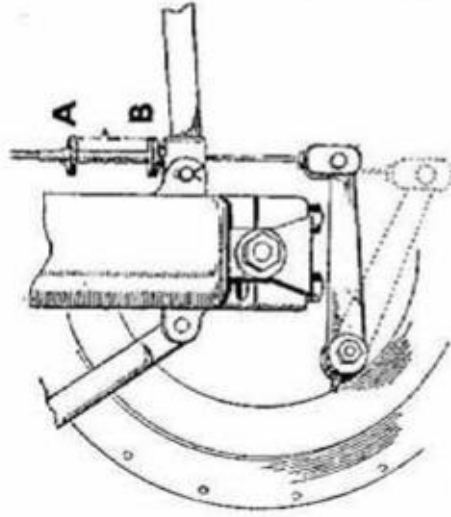

FIG. 16. HAND-ADJUSTMENT OF 1945-7 FRONT BRAKE (SHOWN EXHAUSTED)
Referring to Fig. 16, jack up the Matchless on both front and rear stands. Then *unscrew* the lock-nut (B) approximately *half a complete turn*. Now take up "lost motion" by *unscrewing* the knurled cable adjuster (A) until the brake shoe linings just contact the brake drum when the front wheel is spun by hand.
If hand adjustment of the front brake is no longer possible owing to the condition shown in Fig. 16, a major adjustment must be made by means of the brake shoes as described below.